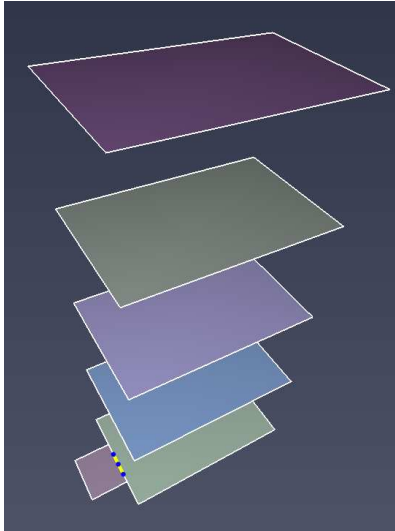

Figure 68. Draw elevator door
2. Draw all doors on the boundary of the base room, see Figure 68. Occupants will use these doors on every floor to enter and exit the elevator.